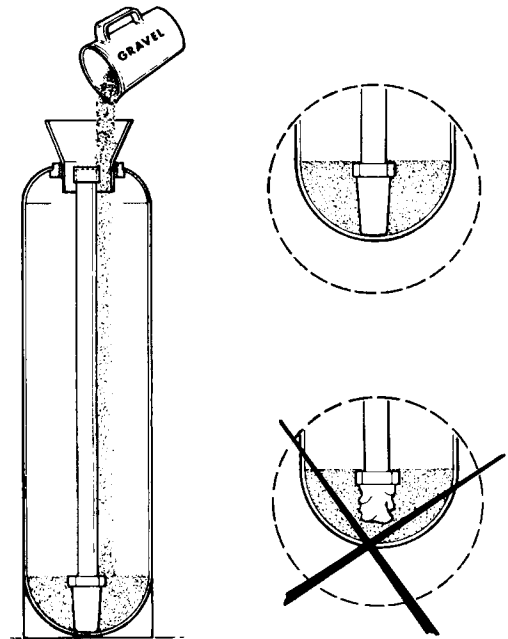

Figure 1
**Do not raise the distributor pipe. If gravel is allowed to get under the distributor, it may cause the distributor to be crushed when the tank adapter is installed. Reference Figure 1.**